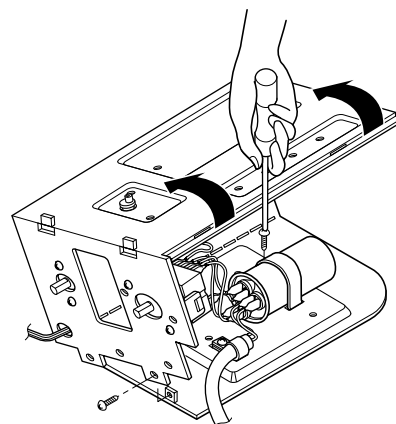

Figure 27
4. Remove a screw and unfold the control box. (See Fig. 27)
5. Remove the screw and the clamp which fastens the capacitor. (See Fig. 27)